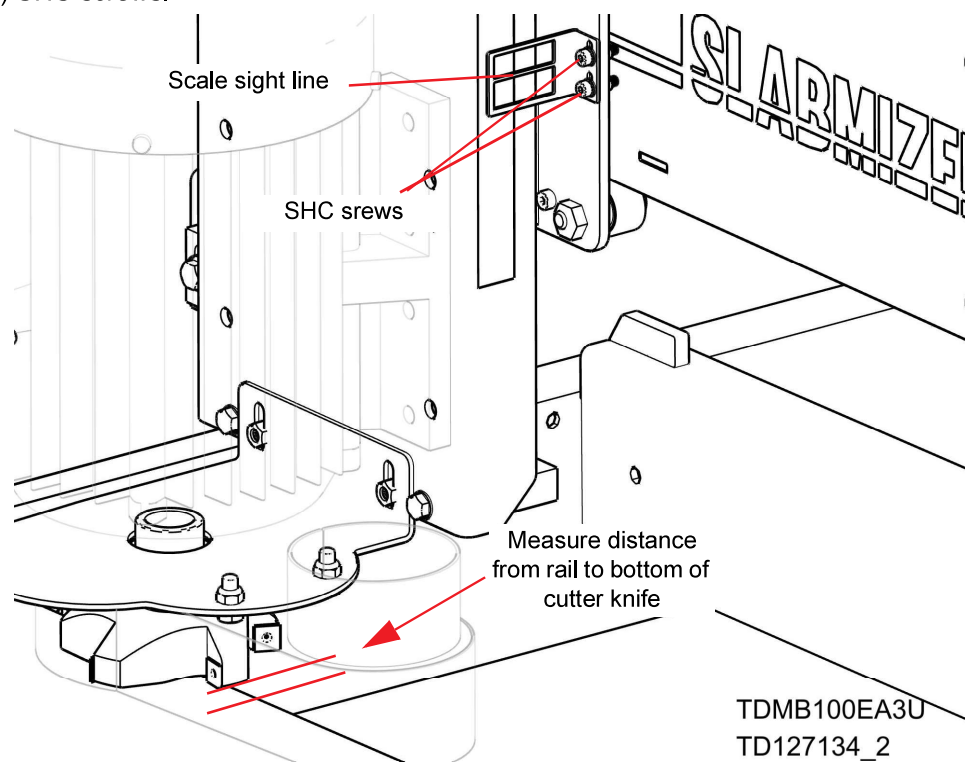

**FIG. 8-2**
1. Locate (4) cam nuts on back plate of up/down assembly. See FIG. 8-2